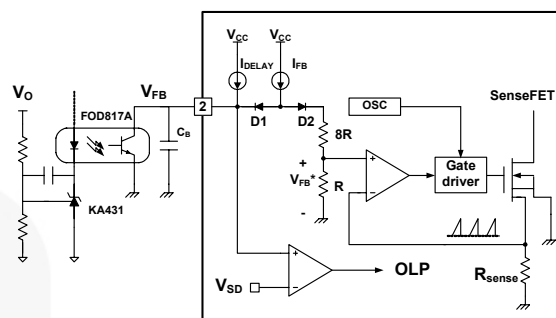
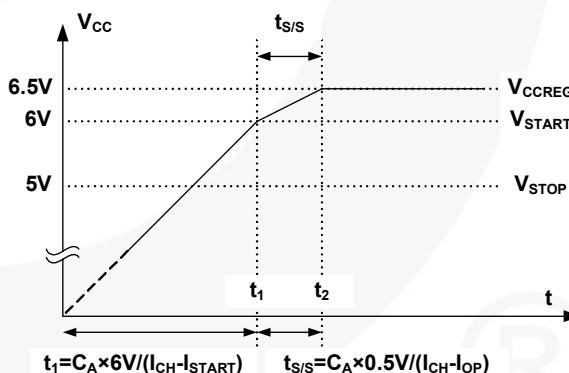

**Figure 15. Startup Block**
Figure 20. Soft-Start Function
**1. Startup and  $V_{CC}$  Regulation:** At startup, an internal high-voltage current source supplies the internal bias and charges the external capacitor ( $C_A$ ) connected to the  $V_{CC}$  pins, as illustrated in Figure 15. An internal high-voltage regulator (HV/REG) located between the Drain and  $V_{CC}$  pins regulates the  $V_{CC}$  to 6.5V and supplies operating current. Therefore, FSQ500N needs no auxiliary bias winding.
**4. Soft-Start:** The soft-start time is tuned by an external  $V_{CC}$  capacitor ( $C_A$ ), which increases PWM comparator non-inverting input voltage together with the senseFET current slowly after it starts. Before  $V_{CC}$  reaches  $V_{START}$ ,  $C_A$  is charged by the current  $I_{CH-I_{START}}$ , where  $I_{CH}$  and  $I_{START}$  are described in Figure 15. After  $V_{CC}$  reaches  $V_{START}$ , all internal blocks are activated, so that the current consuming inside IC becomes  $I_{OP}$ . Therefore,  $C_A$  is charged by the current  $I_{CH-I_{OP}}$ , which makes the increasing slope of  $V_{CC}$  become sluggish.  $V_{CC}$  is shifted by 6.0V negatively (it is performed in soft-start block in Figure 2), then  $V_{CC} - 6.0V$  is an input of one of the input terminals of the PWM comparator. The drain current follows  $V_{CC} - 6.0V$  instead of the  $V_{FB}^*$  because of the low-dominant feature of the PWM comparator. The soft-start time can be made long or short by selecting  $C_A$ , as described in Figure 20. During  $t_{S/S}$ ,  $I_{DELAY}$  is disabled to avoid unwanted OLP. Typically,  $t_{S/S}$  is around 4.6ms with 27 $\mu$ F of  $C_A$ .